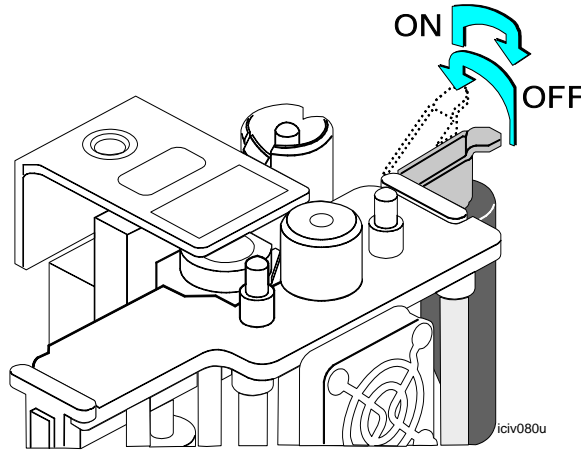

Figure 3-8: Lift the handle, move the debower, and lower it
- 2 Lift the handle for the debower and move it to the desired position for the card type. Figure 3-8 shows the on and off positions for the debower.